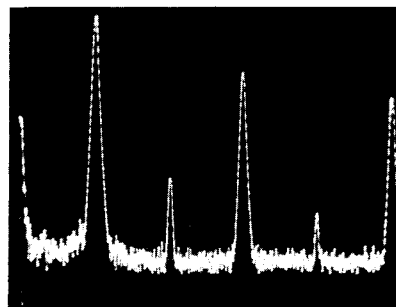

Figure 5—1. Ramp Distortion Adjustment
- 6.2 Adjust A10R212 for min. ramp distortion (Figure 5—1).